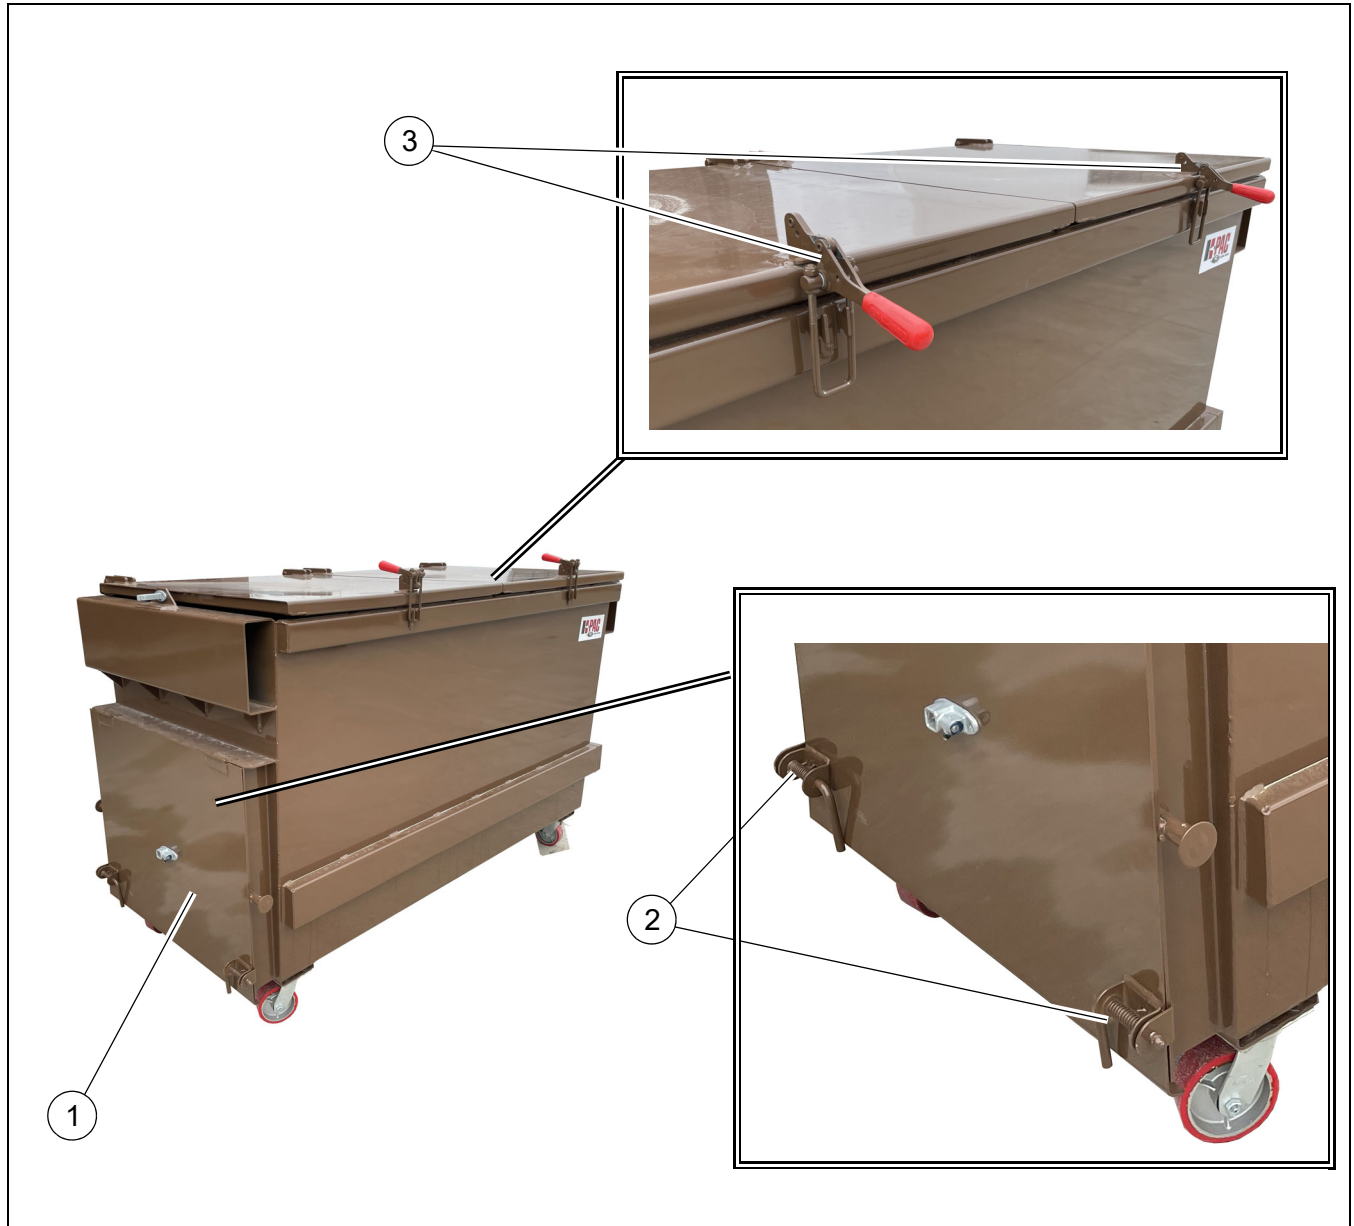

Figure 20
- Pull the side door (**Figure 20, 1**) down to close the container opening.
- Secure both latches (**Figure 20, 2**) on the side cover to secure in place.
- Release latch (**Figure 20, 3**) on both top covers to allow the covers to swing and open when dumping.